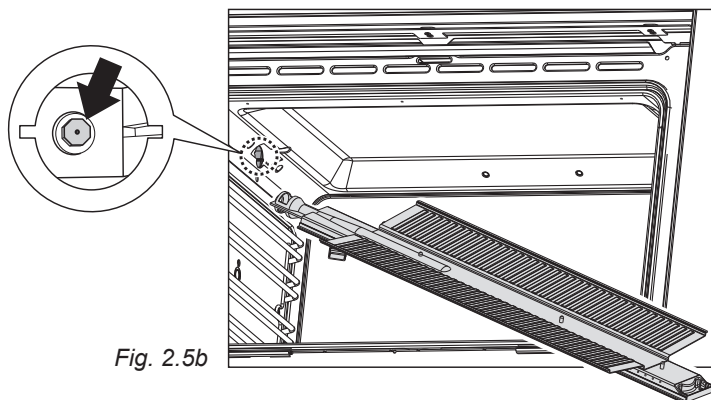

Fig. 2.5b
- Withdraw the burner as shown in figure 2.5b.
- Using a 7 mm box spanner, unscrew the injector (indicated by the arrow in fig. 2.5b) and replace it with a new one selected in accordance with the “Table for the choice of the injectors”.